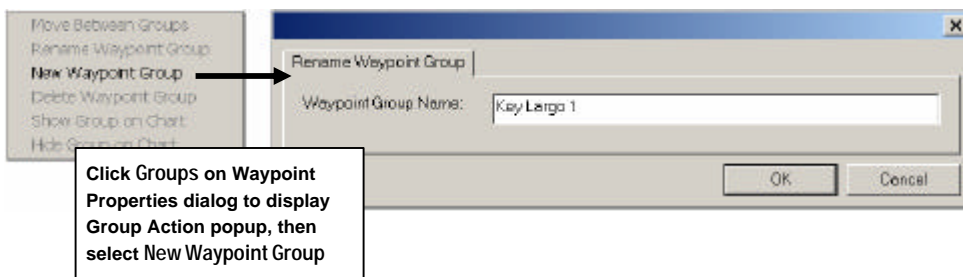

Figure 4-21. Creating a New Waypoint Group
3. Select **New Waypoint Group**. The Rename Waypoint Group dialog box is displayed (Figure 4-21).